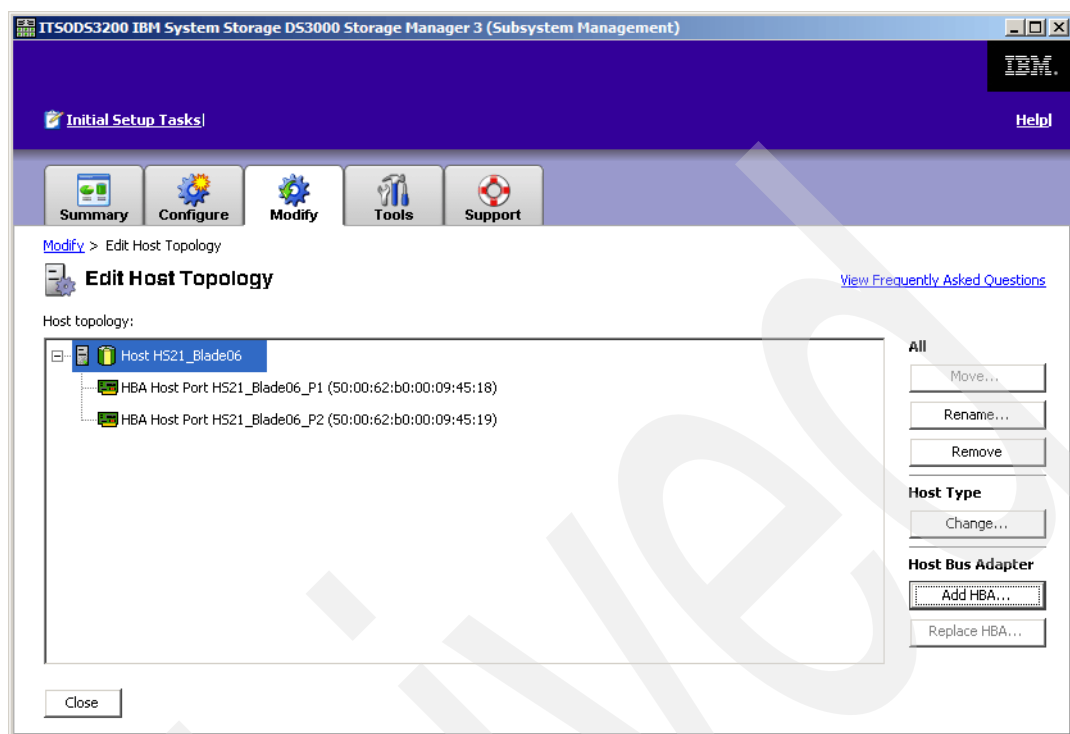

Figure 20-45 Host and HBA listing
6. Figure 20-45 lists the HBA WWPN ports allocated to the host.